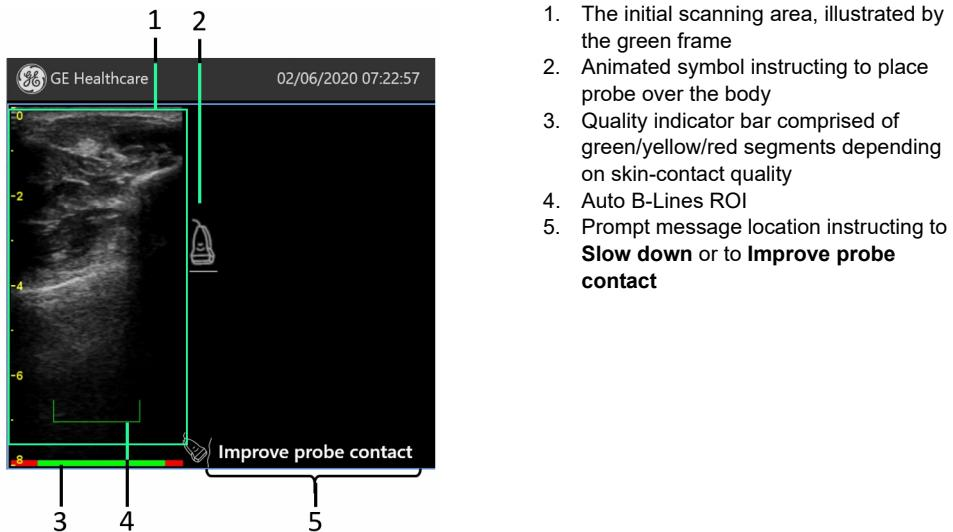

Figure 7-39. Lung sweep quality indicator
When the sweep stops, the ROI widens to mark the whole effective area of the sweep. The color of the wide ROI is set accordingly to the worst Quality Indicator (Figure 7-39, item 3) that was displayed during the sweep.